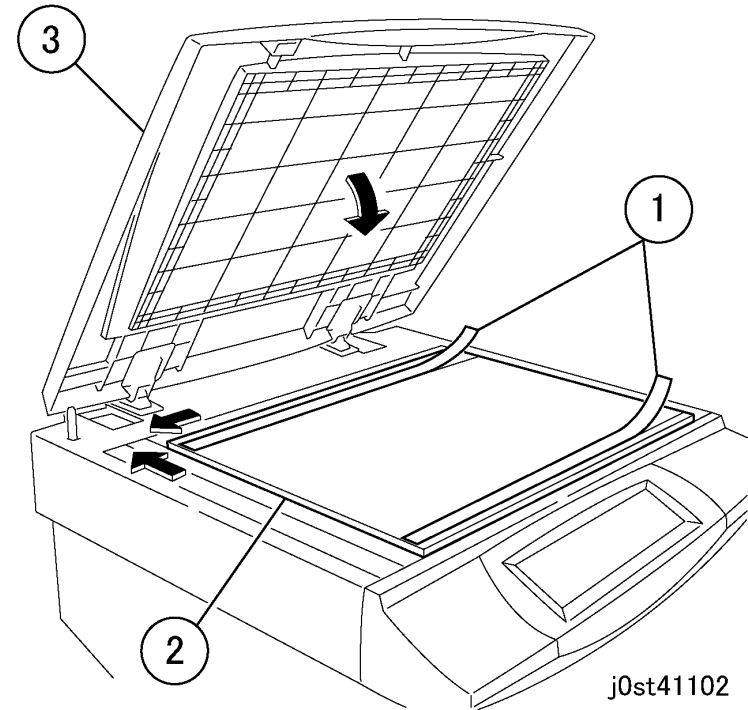

Figure 2 Installing the Platen Cushion
1. Install the Platen Cushion. (Figure 2)